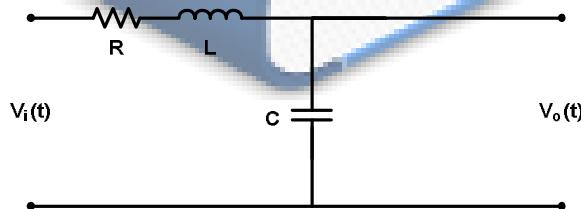

Fig.3.2. a system in time domain
**Example 3.1:** Determine the transfer function of the system shown in Fig.3.2.